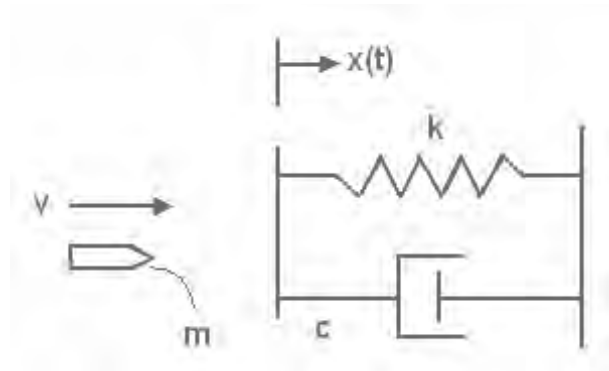

Figure 7
6. A projectile of mass $m = 10\text{kg}$, travelling at velocity $v = 100\text{ m/s}$, hits a board attached to a dashpot of damping co-efficient $c = 400\text{ Ns/m}$, and a spring of stiffness $k = 400000\text{ N/m}$ as shown in the Figure 7. The projectile becomes embedded in the board (of negligible mass) after hitting it.